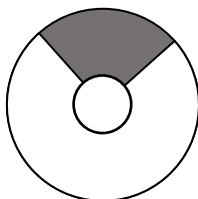

Fig. 2.1
- (a) Use your microscope to observe the different tissues in the region of slide **R1** shown by the shaded area in Fig. 2.1.
- (i) Use the space provided to draw a large plan diagram of the sector of the stem on **R1**, as shown by the shaded area in Fig. 2.1.
Within this sector of the stem shown by the shaded area in Fig. 2.1, there are number of air spaces.